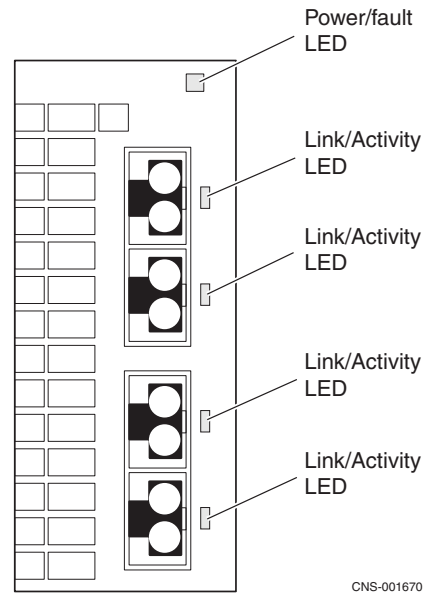

Figure 49 Four-port 8-Gb/s FC I/O module LEDs
The four-port 8-Gb/s Fibre Channel (FC) I/O module has two different types of status LEDs. Figure 49 shows the LEDs and Table 29 describes them.